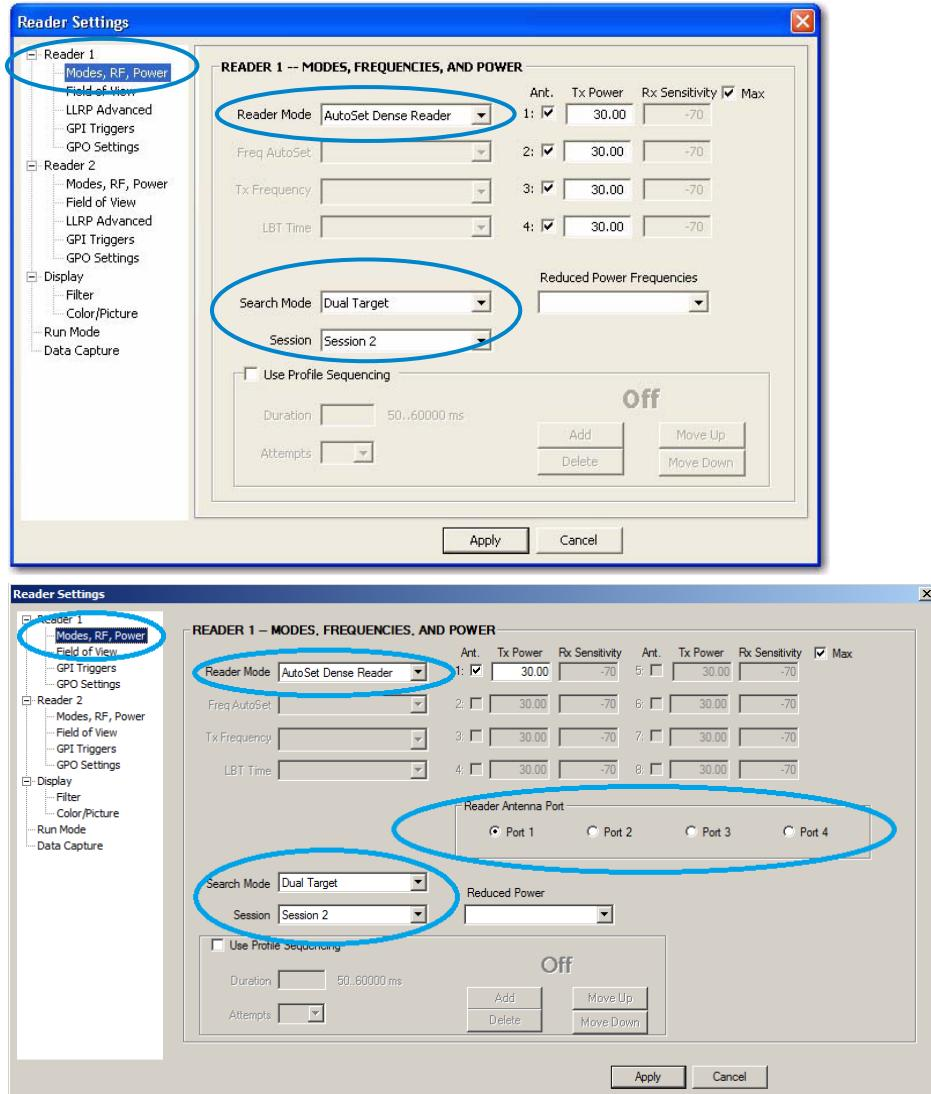

Figure 3.3 MultiReader Reader Settings Settings Screen
12. Set the appropriate transmit power, **Tx Power**, and receive sensitivity, **Rx Sensitivity**, for each enabled antenna. See Figure 3.3